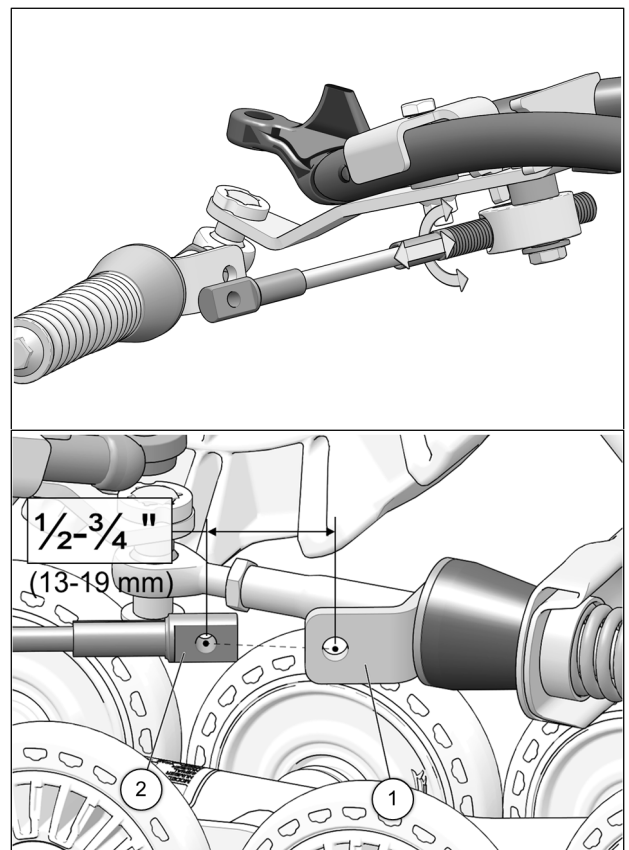

Fig. 21
13. Turn the vehicle's steering wheel to its maximum point of travel on the left. While maintaining pressure on the steering wheel, turn threaded rod to adjust length of cable so that the cable end hole (**1**) is located 13 to 19 mm [$\frac{1}{2}$ to $\frac{3}{4}$ in.] short of the mounting hole on the support plate (**2**). See Fig. 21